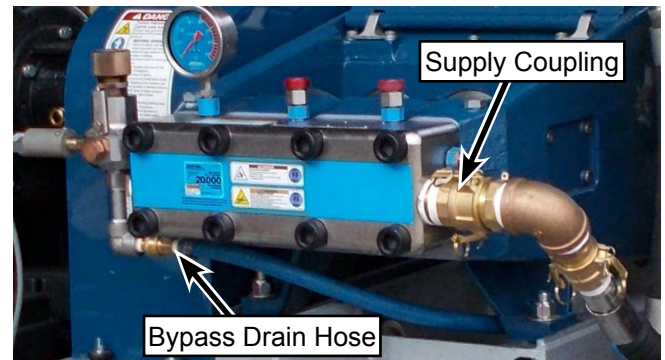

Figure 72: Disconnect Bypass Drain Hose and Supply Coupling.
3. Disconnect the bypass drain hose and the supply coupling from the manifold (Figure 72).